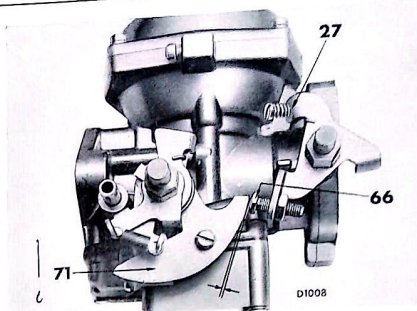

Fig. 11. Choke, cam and throttle adjusting screws
Finally re-adjust the fast idling screw (66) to provide a clearance of $\frac{1}{16}$ " between the head of the screw and the adjacent face of the cam (71) as shown on Fig. 11.